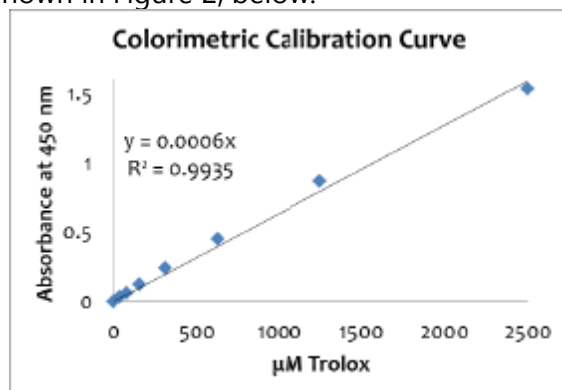

Figure 2: Trolox Calibration Curve
2. Plot a standard curve using the corrected absorbance value for each standard versus the Trolox concentration for each Standard. The equation of the line can be found using a linear fit method shown in Figure 2, below:
Example: Using the equation from the calibration curve shown in Figure 2.